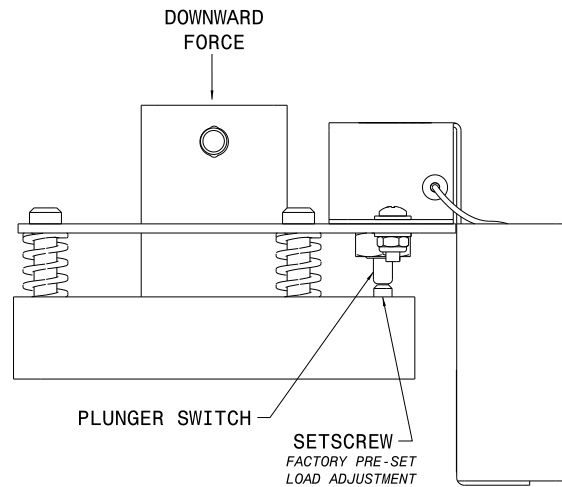

Figure 3
2. Depress the plunger switch to check electronic circuit. The alarm will sound when the switch is engaged. (see Figure 3)
3. Test alarm by slowly applying an evenly distributed force of 100 to 150 lbs (45.36 to 68.04 kg) across the top of the load alarm. The top plate of the load alarm kit will lower and engage the plunger switch. A loud pulsating alarm will then sound. If alarm does not sound, refer to the Troubleshooting section. (see Figure 3)